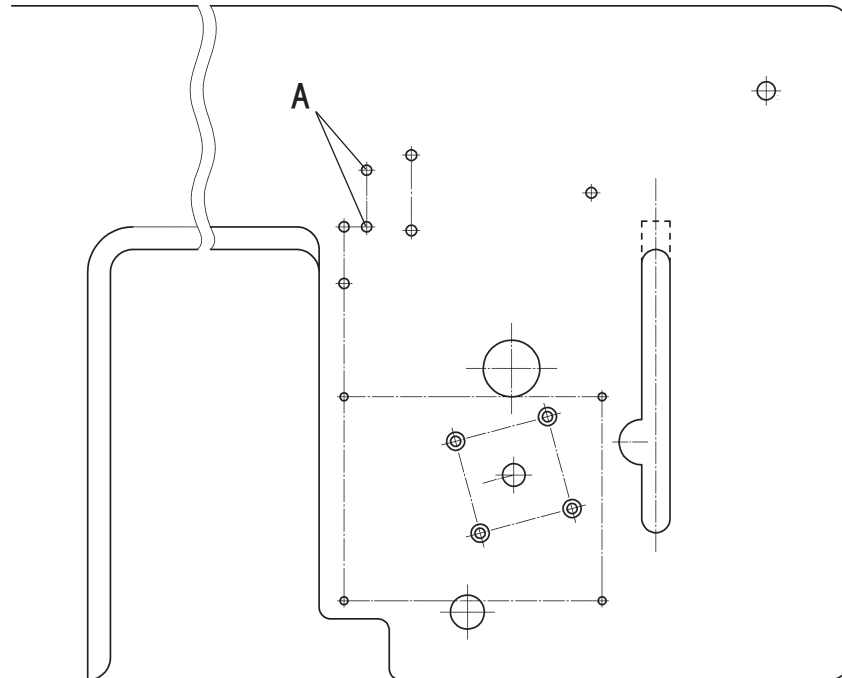

Fig. 1-1
Fix the tension roller holder ① on the position A in Fig. 1-1.